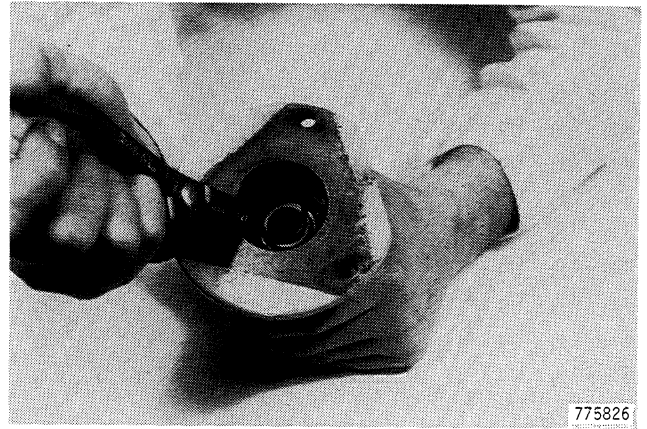

Figure 83
7. Install the snap ring in the drive gear, Figure 83.